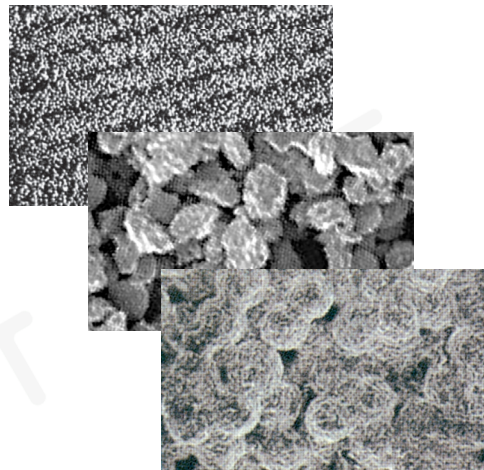

Figure 2
2. HARMONY stem manufactured from high-strength, low stiffness, forged Ti6Al4V; the elastic modulus is more close to bone. The combined strength of the vacuum plasma-sprayed titanium porous coating $\geq 50\text{mpa}$, the ratio of the volume of all the pores $> 35\%$. The HA coating is around $50\text{ }\mu\text{m}$ (Figure 2), the coating thickness and material bring a better clinical performance, which is beneficial to primary bone ingrowth.